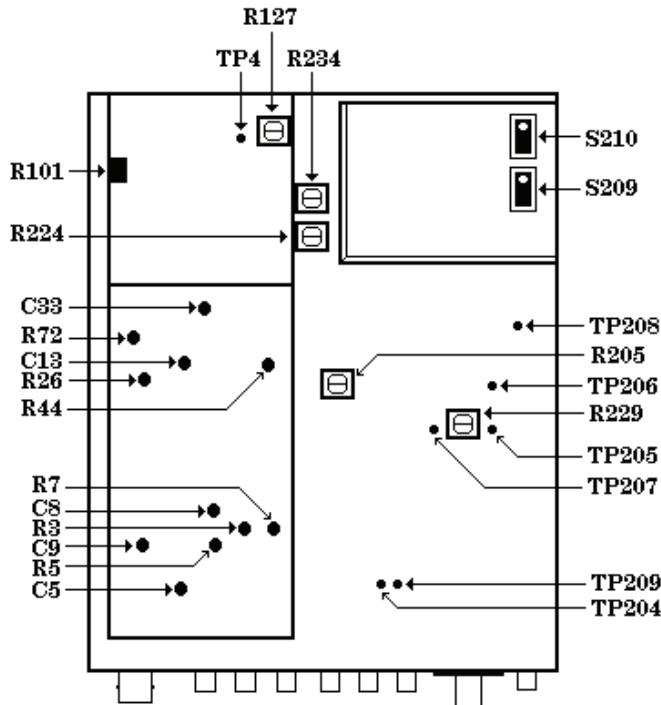

Figure 1. Test points and adjustment locations - top view.
- b.** Observe that slide switches S209 and S210 (fig. 1) are set for proper 120 V operation (both slide switches to left with white dot toward rear).
All test points and adjustments are shown in figure 1. Remove top cover only to make connections or adjustments and replace immediately upon completion.
- (1) Connect calibrator **OUTPUT HI** and **LO** to **TI INPUT**.
- (2) Press and release all front panel pushbuttons to the out position, except **POWER**.
- (3) Connect a short between TP204 and TP209 (fig. 1).
- (4) Set calibrator for a 1 V, 500 Hz output. Record TI indication.
- (5) Press **RANGE HOLD/AUTO** pushbutton to **HOLD**.
- (6) Set calibrator for a 0.1 V, 500 Hz output. If TI does not indicate one-tenth of value recorded in (4) above, perform **b** (1) and (2) below.
- (7) Press and release **RANGE HOLD/AUTO** pushbutton to **AUTO**.
- (8) Set calibrator for a 2.5 V dc output.
- (9) Press **FUNCTION AC+DC/AC** pushbutton to **AC+DC**. If TI does not indicate between 2.388 and 2.612 V, perform **b** (3) below.
- (10) Set calibrator for a .25 V dc output. If TI does not indicate between .2388 and .2612 V, perform **b** (4) below.
- (11) Press and release **FUNCTION AC+DC/AC** pushbutton to **AC**.
- (12) Set calibrator to output settings listed in table 3. If TI does not indicate within limits specified, perform appropriate adjustments.
¹Interaction exists between R44 and R205 (fig. 1). Repeat both adjustments as required.²Interaction exists between C8 and C5 (fig. 1). Repeat both adjustments as required.³Press **FUNCTION AC+DC/AC** pushbutton to **AC+DC**.
- (13) Disconnect calibrator from TI.
- (14) Disconnect short from TP204 and TP209 (fig. 1).
- (15) Press and release **FUNCTION AC+DC/AC** pushbutton to **AC**.
- (16) Press **RANGE HOLD/AUTO** pushbutton to **HOLD** and **STEP UP** pushbutton to **20 mV** range.
- (17) Connect calibrator **OUTPUT HI** and **LO** to **TI INPUT**.
- (18) Set calibrator for a 23 mV, 500 Hz output.
(19) Increase calibrator output in increments of 0.1 mV while observing TI **UNCAL** annunciator light. If annunciator light does not illuminate from between 23.5 and 24.5 mV, perform **b** (5) through (11) below.
(20) Press and release **RANGE HOLD/AUTO** pushbutton to **AUTO**.
(1) Adjust R101 (fig. 1) until TI indicates one-tenth of value recorded in **a** (4) above (R).
(2) Press and release **RANGE HOLD/AUTO** pushbutton to **AUTO** and repeat **a** (4) through (6) above.
(3) Adjust R72 (fig. 1) until TI indicates between 2.49 and 2.51 V (R).
(4) Adjust R26 (fig. 1.) until TI indicates between 0.249 and 0.251 V and repeat **a** (8) through (10) above (R).
(5) Connect multimeter **INPUT HI** to TI TP4 (fig. 1) and **INPUT LO** to TI chassis ground.
(6) Remove tape dot from adjustment R127 and turn R127 (fig. 1) fully ccw.
(7) Set calibrator for a 24 mV, 200 Hz output. **UNCAL** light will be illuminated.